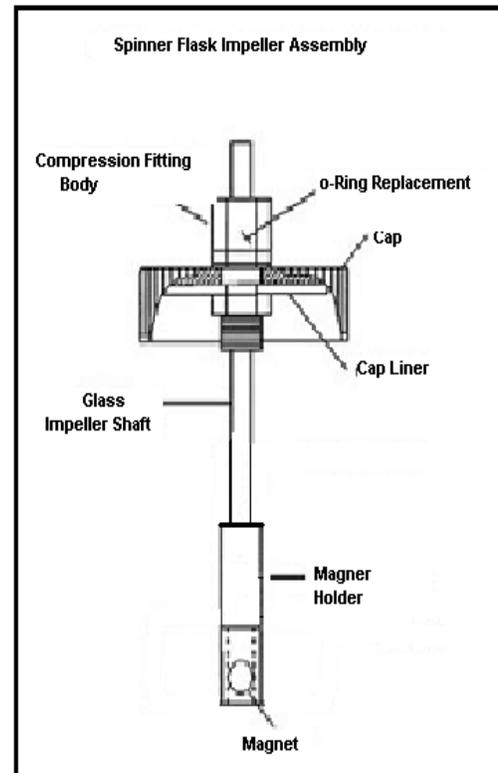

Figure 2: Spinner Flask Impeller Assembly
- 9.2. Figure 2: Spinner Flask Impeller Assembly (<http://www.bellcoglass.com/>)